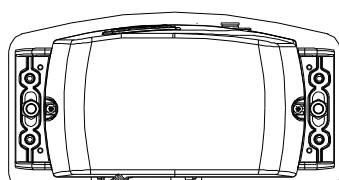
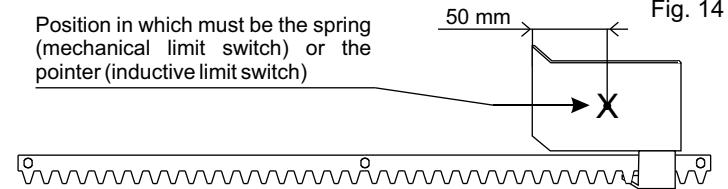

Fig. 12
Fig. 14
- Place the small plate on the gear rack so that the limit switch is (small lever in case of mechanical limit switch (Fig. 12); small pointers placed on the upper part in case of inductive limit switch (Fig. 13)) in correspondence of pointX which is placed 50 mm from the folded side of the small plate (Fig. 14) and fix it with the delivered screws (Fig. 15).
- Place the small plate on the gear rack so that the limit switch is in correspondence of pointX which is placed 50 mm from the folded side of the small plate (Fig. 14) and fix it with the delivered screws (Fig. 15).